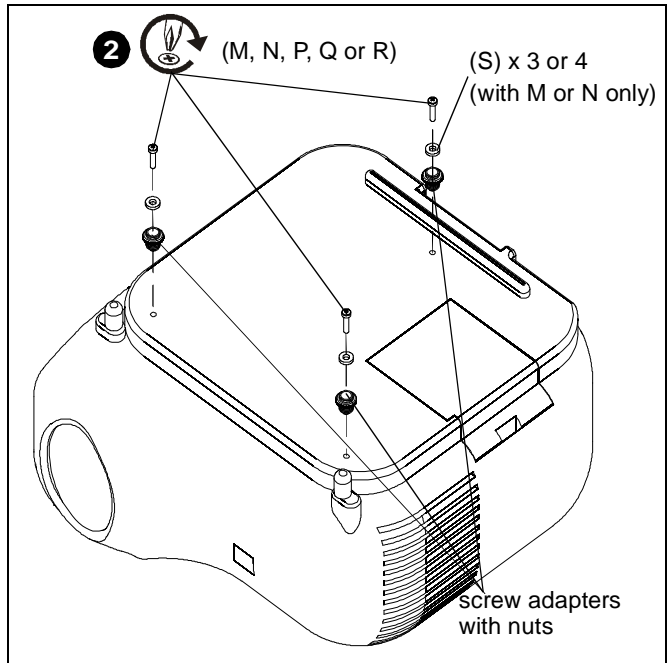

Figure 2
2. Insert screws through M4 flat washers (S), screw adapters with height-adjustable nuts and into projector holes. (See Figure 2)
**NOTE:** Only use washers (S) if using M or N screws to attach screw adapters to projector.